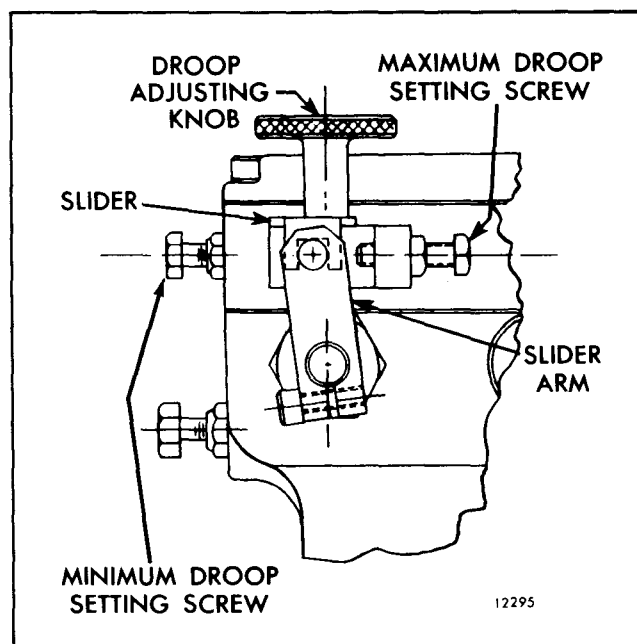

Fig. 7 - External Droop Control on PSG Isochronous Governor
5. Loosen the droop adjusting knob (Fig. 7) and move the slider all the way in toward the engine, and then tighten the knob.